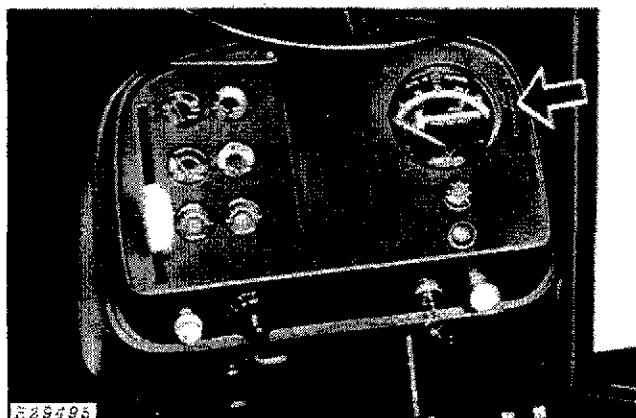

Fig. 36—Tachometer
14. Check engine idle speeds on tachometer (Fig. 36). Fast idle should be 2400 rpm and slow idle should be 800 rpm.